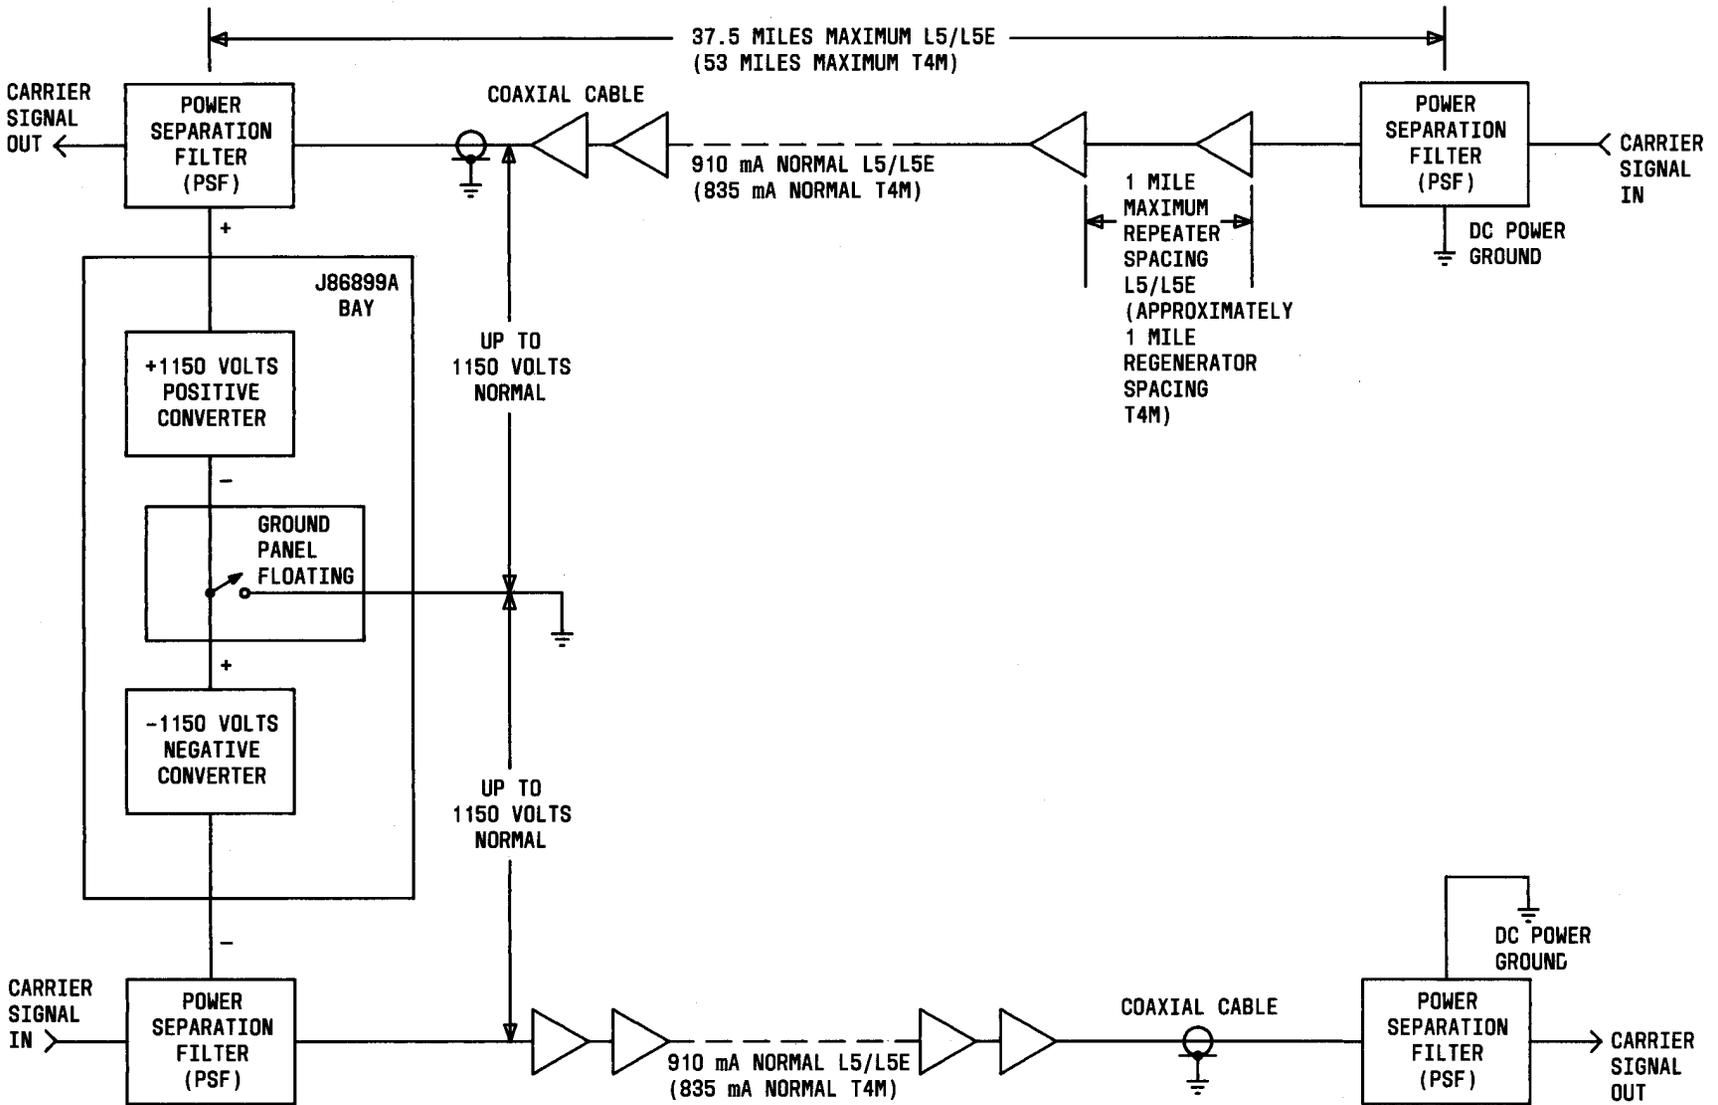

Fig. 3—T4M or L5/L5E Single-Ended Power Feed Using 680B Power Plant
1.05 If the length of the coaxial line is no greater than 37.5 miles for a L5/L5E system, or 53 miles for a T4M system, a single-ended (see Fig. 3) power feed arrangement is used. A single-ended power feed is powered at one end of the cable by one regular CONVERTER (J86899A) bay supplying NEGATIVE voltage to one tube and POSITIVE voltage to the other tube. The opposite end will be nonpowered and will have a solid dc ground provided by the Power Separation Filters (PSF).